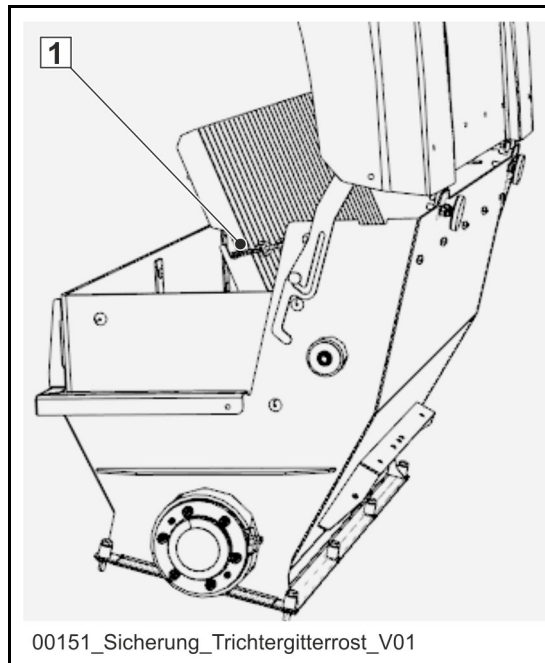

Fig. 246 Example: Securing the raised hopper grate
The hopper grate must only be opened in exceptional cases. Lock the raised hopper grate with the hooks (1) (**Fig. 246**).